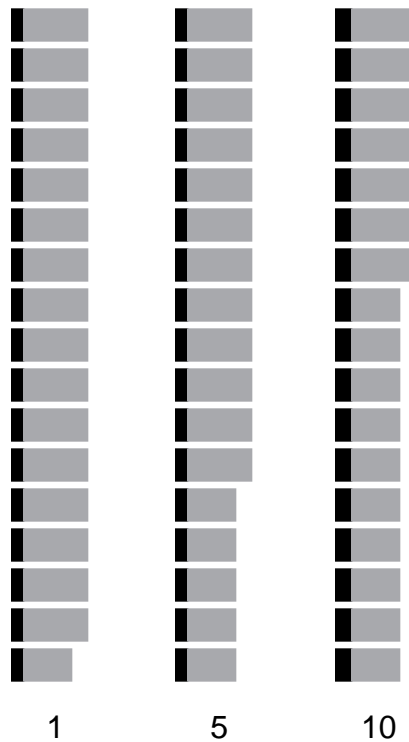

Figure 5.3. Indents show the increment value, expressed in exposure units.
- The increment, or difference in the exposure setting from one band to the next, is indicated by indents at the right end of the test page. See Figure 5.3.